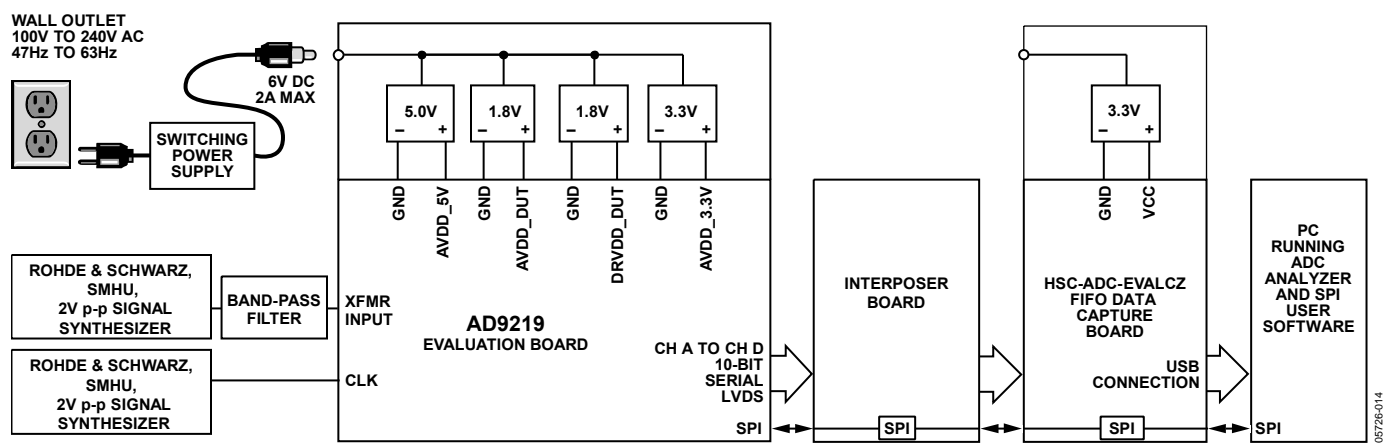
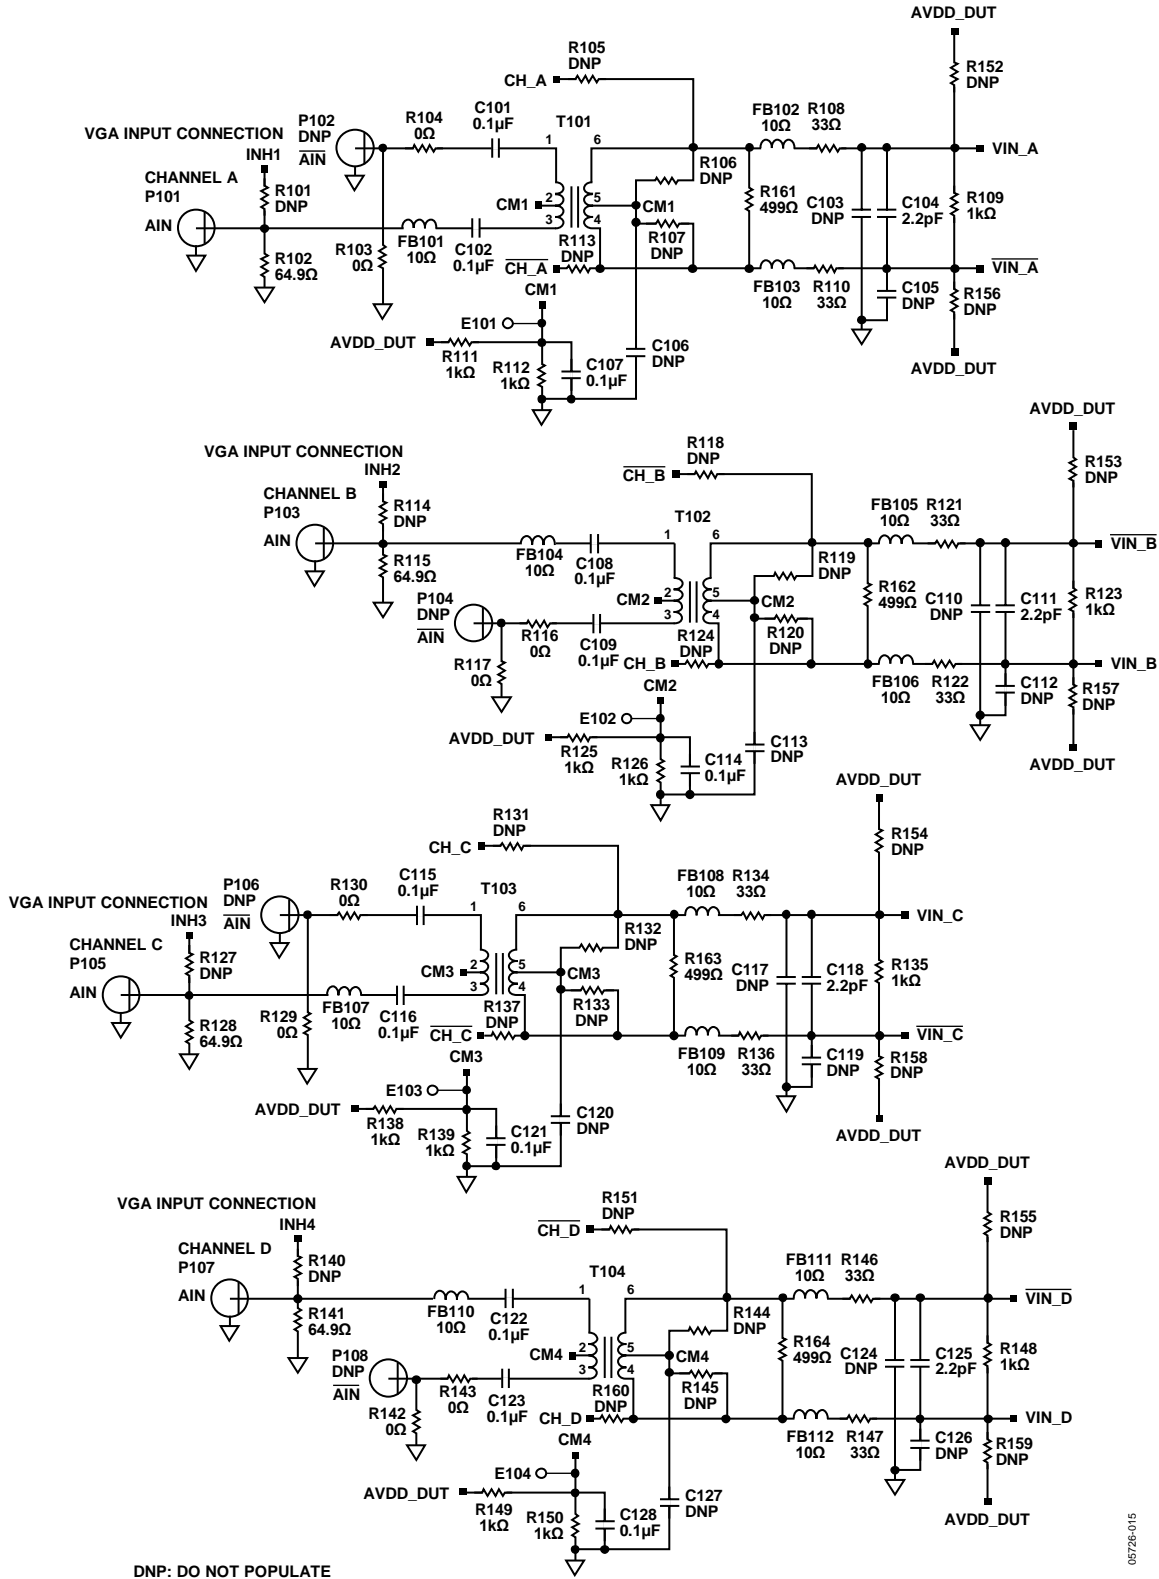
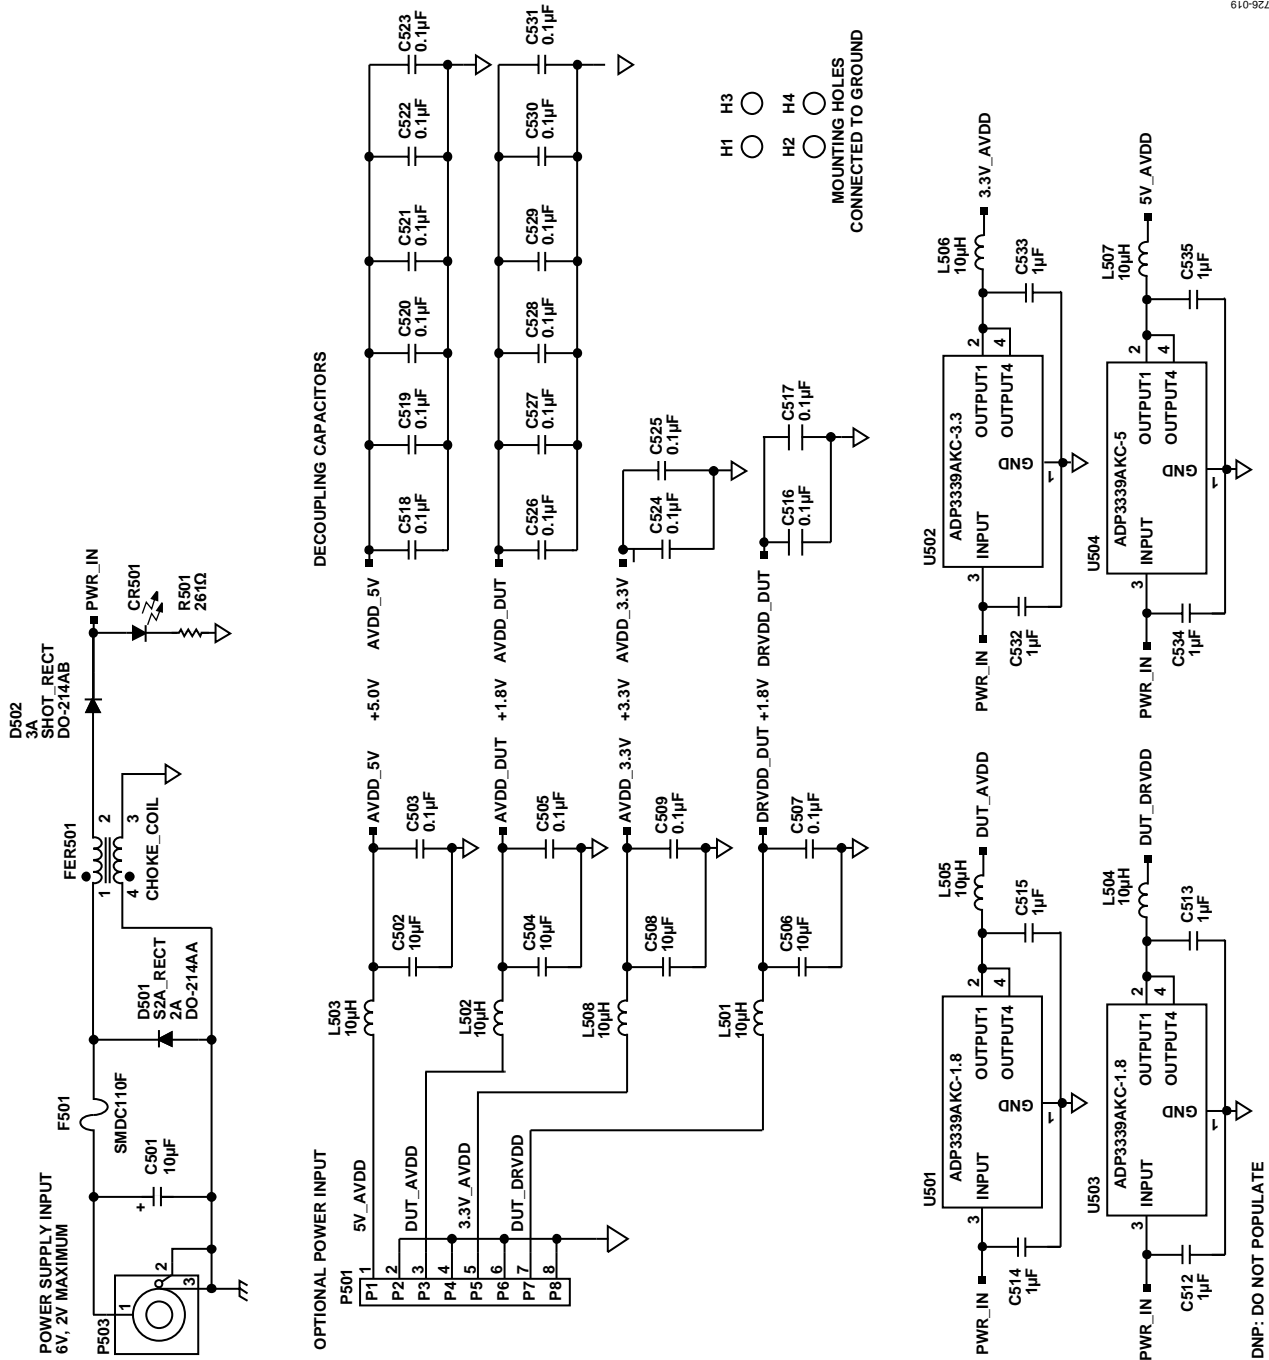

Figure 71. Evaluation Board Connection
Figure 73. Evaluation Board Schematic, DUT Analog Inputs
Figure 77. Evaluation Board Schematic, Power Supply Inputs
The AD9219 evaluation board provides all of the support circuitry required to operate the ADC in its various modes and configurations. The converter can be driven differentially using a transformer (default) or an AD8332 driver. The ADC can also be driven in a single-ended fashion. Separate power pins are provided to isolate the DUT from the drive circuitry of the AD8332. Each input configuration can be selected by changing the connection of various jumpers (see Figure 73 to Figure 77). Figure 71 shows the typical bench characterization setup used to evaluate the ac performance of the AD9219. It is critical that the signal sources used for the analog input and clock have very low phase noise ( $<1$  ps rms jitter) to realize the optimum performance of the converter. Proper filtering of the analog input signal to remove harmonics and lower the integrated or broadband noise at the input is also necessary to achieve the specified noise performance.
See Figure 73 to Figure 81 for the complete schematics and layout diagrams demonstrating the routing and grounding techniques that must be applied at the system level.
- **D + x, D - x:** If an alternative data capture method to the setup shown in Figure 73 is used, optional receiver terminations, R206 to R211, can be installed next to the high speed back-plane connector.